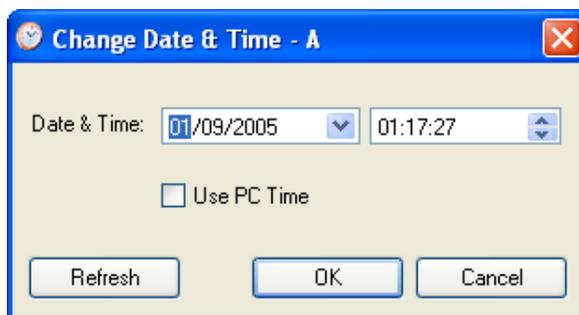

Figure 4-42. Manually Changing Date and Time
6. To manually set the date and time, click **Change** (Figure 4-42) and edit the new values. The ODU time can be locked to a PC clock by checking the corresponding box appears on the Change screen.